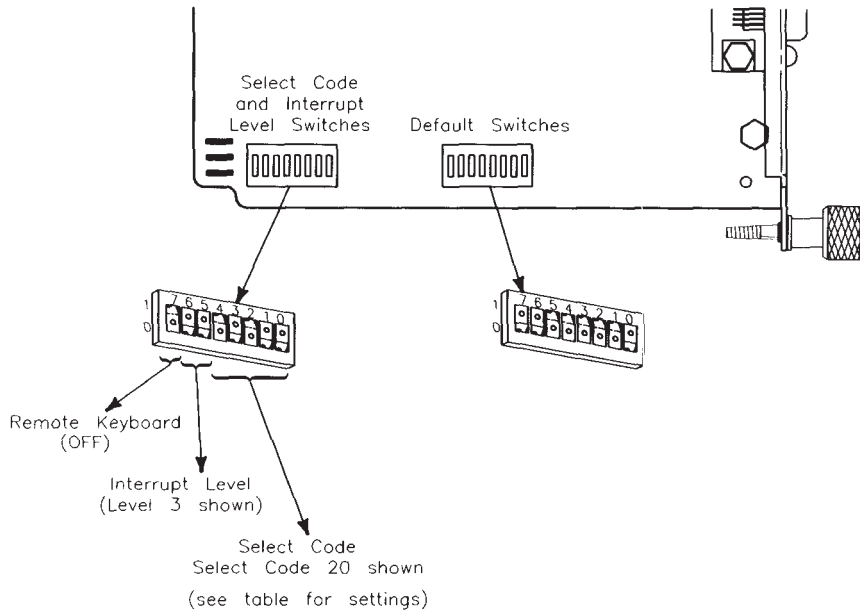

Figure 5-24.
- Find the set of select code and interrupt level switches by referring to Figure 5-24. Switches 0 thru 4 in this group determine the select code.
- a. Find the set of select code and interrupt level switches by referring to Figure 5-24. Switches 5 and 6 in this group determine the interrupt level.
- a. Find the set of select code and interrupt level switches by referring to Figure 5-24. Switch 7 in this group is the Remote switch.
- If you are connecting a terminal to this interface and want the terminal to be the system console, set this switch to *0* (remote), which is *opposite* that shown in Figure 5-24. Be aware that the boot ROM will not recognize this terminal as the system console, even though HP-UX will. No boot ROM messages will appear on the associated terminal; therefore, do not use the HP 98628A as a system console until after HP-UX is installed.
- If you are connecting a terminal to this interface but *do not* want the terminal to be the system console, set this switch to *1* (OFF) as shown in Figure 5-24.
- a. Find the Default switch group by referring to Figure 5-24. Switch 0 in this group is the protocol switch.
- If you want the Async protocol, used with most connections, set switch 0 to *0* as shown in Figure 5-24.
- If you want the HP DSN/Data Link protocol, used in networking with an HP 1000 host computer, set switch 0 to *1*, which is *opposite* that shown in Figure 5-24.
- a. Find the Default switch group by referring to Figure 5-24. Switches 1 thru 3 in this group determine the baud rate.
- If connecting a terminal or an HP 2686 *LaserJet* printer to this interface, set the baud rate switches to 9600. To get 9600 baud, set switches 3, 2 and 1 to 1 as shown in Figure 5-24.
- a. Find the Default switch group by referring to Figure 5-24. Switches 4 and 5 in this group determine the hardware handshake.
- If connecting an HP 2686 *LaserJet* printer, set both switches 5 and 4 to *1* as shown in Figure 5-24. This sets up a non-modem connection with the handshake on.
- If connecting a terminal or HP 39800/01A bar code reader, set both switches 4 and 5 to *0*, which is *opposite* that shown in Figure 5-24. This sets up a non-modem connection with the handshake off.
- a. Find the Default switch group by referring to Figure 5-24. Switches 6 and 7 in this group determine the parity type/character length.
7 to 0 as shown in Figure 5-24. This sets up 8 bits/character and no parity.